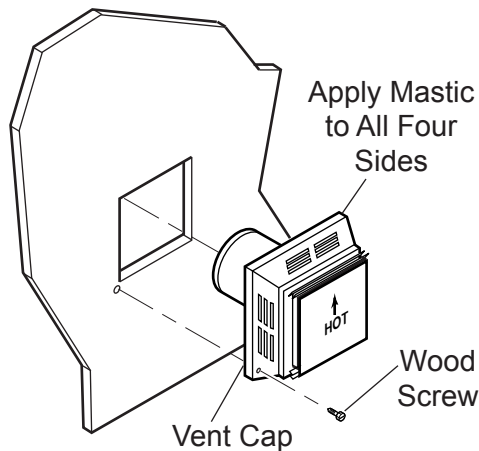

Figure 12 - Installing Horizontal Vent Cap
- Apply a bead of non-hardening mastic around the outside edge of vent cap. Position the vent cap in the center of the 7 1/2" (190mm) or 9 1/2" (241mm) hole on the exterior wall with the word "UP" on the vent cap facing up. Insure proper clearance of 1" to combustibles is maintained. Attach the vent cap with four wood screws supplied. See Figure 12.